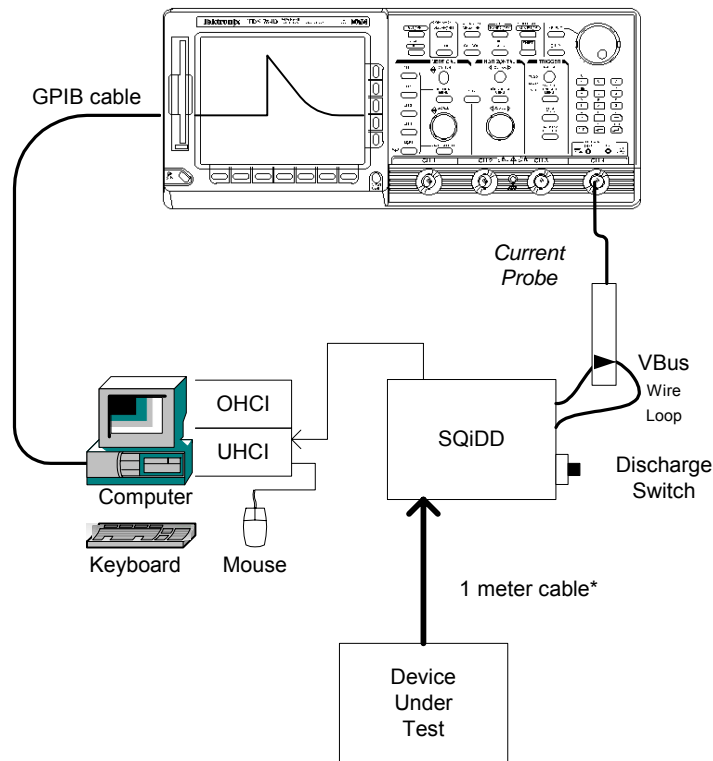

Figure B-8: Device Inrush Current Test Setup
5. Hook up Device Under Test (DUT) to SQiDD Board Section 1 per Figure B-8: Device Inrush Current Test Setup.